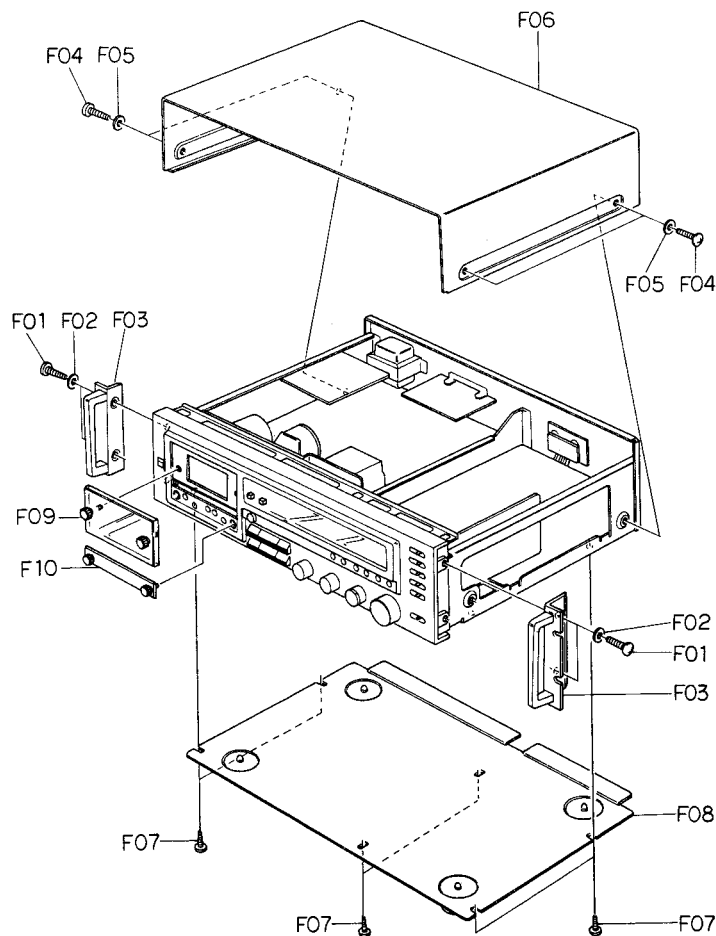

Fig. 2.1
Refer to Fig. 2.1.
- (1) Refer to Fig. 2.1. Remove Top Cover Ass'y and Bottom Cover Ass'y referring to items 2.2 and 2.3.
- (2) Pull out F01 (Volume Knob A), F02 (Volume Knob B) and F03 (Pitch Control Knob).
- (3) Remove F04, F05 and F06, then disassemble F07 (Front Panel Ass'y including 3 connectors).
- (2) Remove F01 and F02, then disassemble F03 (Rear Panel Ass'y).
- (2) Remove F04 and F05, then disassemble F06 (Power Transformer) and F07 (Transformer Plate).
- (3) Remove F08 and F09, then disassemble F10 (Fuse P.C.B. Ass'y).